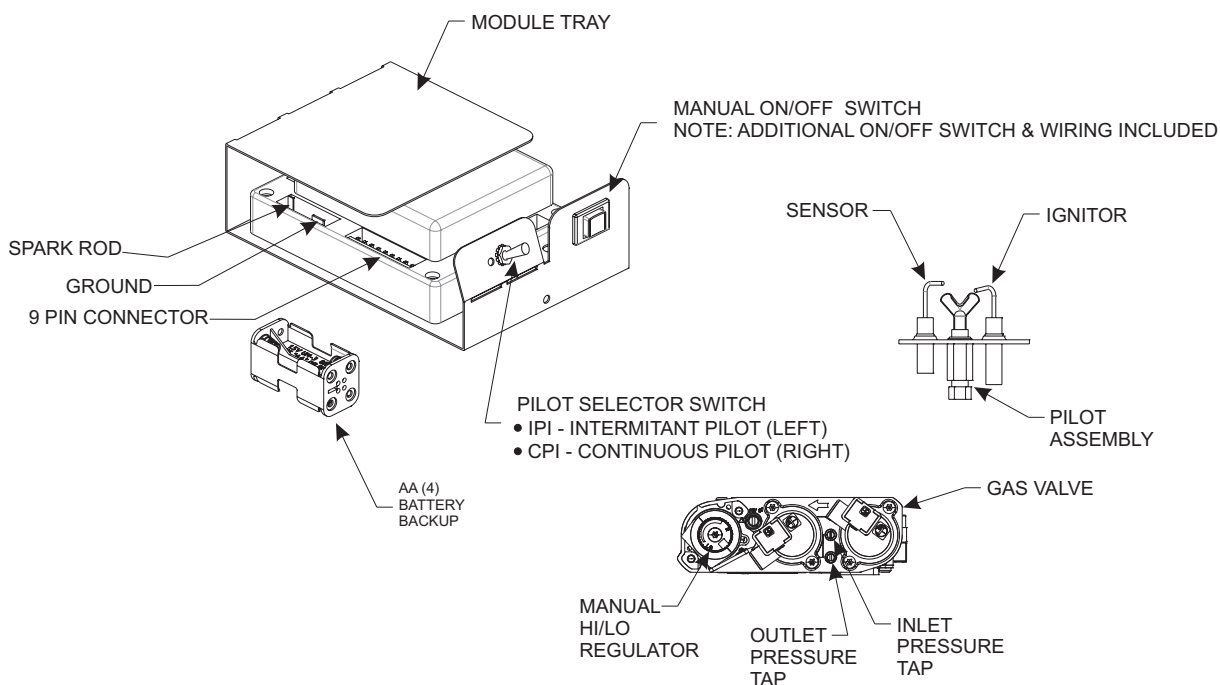

Figure 78
See Figure 78.
3. The gas valve has inlet and outlet pressure taps as shown in Figure 78. Refer to pages 8 and 17 for gas pressure requirements.
NOTICE: The gas control has a manual HI/LO flame adjustment knob (regulator) that allows you to increase or decrease the height of the burner flame. See Figure 78. Rotate the HI/LO knob counterclockwise to "HI" to increase the flame height, and clockwise to "LO" to decrease the flame height.
To connect the remote receiver to the appliance, first disconnect the ON/OFF switch wires from the white and green wire connectors and connect the wires from the remote receiver to the green and white wire connectors. See Figure 78.